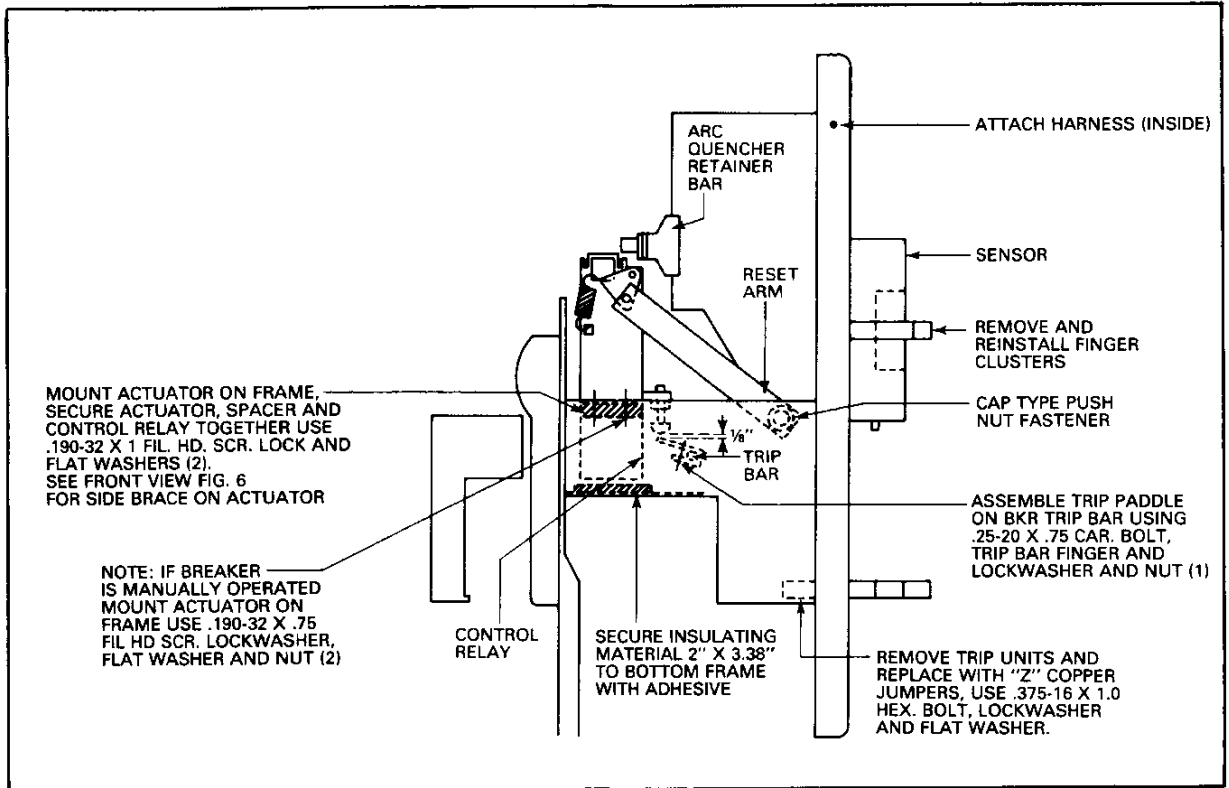

Fig. 5
- Step 2: Assemble trip paddle on breaker trip bar using .25-20 x .75 carriage bolt, trip bar finger and elastic nut, do not tighten nut. Fig. 5.
- Step 3: Position the actuator above the holes that held the control relay, slide the bottom of the reset arm on the .50 shaft on the right side of breaker, and attach the cap type push nut fastener, Fig. 5.
- Step 4: Place the insulating material 2" x 3.38" under the terminals of the control relay. Secure with an adhesive, Figs. 5 and 6.
- Step 5: Position the 1/2" x 1 1/8" spacer beneath the holes under the actuator. Slide the control relay over so that the holes match those of the spacer. Fasten the actuator, spacer and control relay with the .190-32 x 1.0 fil. hd. scr. and washers, Figs. 5 and 6.
If the breaker is to be manually operated Steps 4 and 5 are not required. Secure actuator to frame with .190-32 x 1.0 fil. hd. scr. washer, lockwasher and nuts, see Fig. 5.
- Step 7: Move the assembled trip paddle to line up directly under the trip adjustment screw on the actuator. Spacing between the trip paddle and trip adjustment screw is approximately 1/8" with breaker in closed position, Fig. 5.